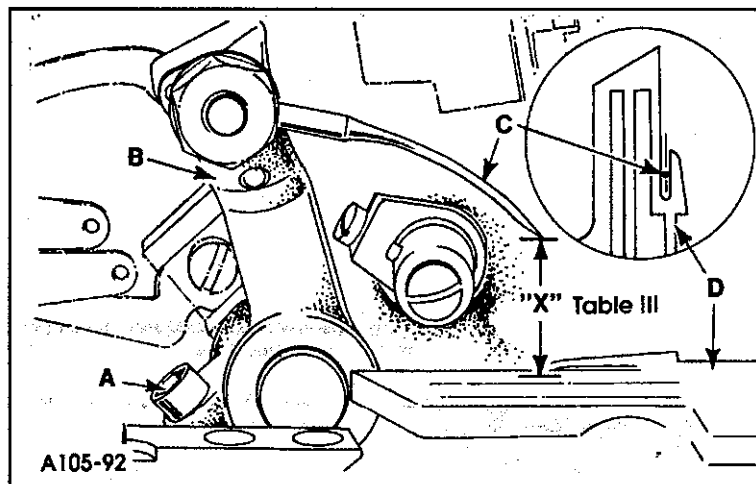

Fig. 6
The needle must be centered from right to left in the needle slot of the throat plate. If adjustment is necessary, loosen screw (A, Fig. 6) and reposition needle driving arm (B) right or left to center needle (C) in
If adjustment is necessary, loosen screw (A, Fig. 6) and move arm (B) forward or rearward as required being careful not to disturb the right to left needle alignment. Tighten screw (A).
Turn the handwheel in operating direction until needle driving arm (B, Fig. 6) is at its highest position. At this time, the distance from the tip of needle (C) to the surface of throat plate (D) should be within the "X" dimension listed on Table III.